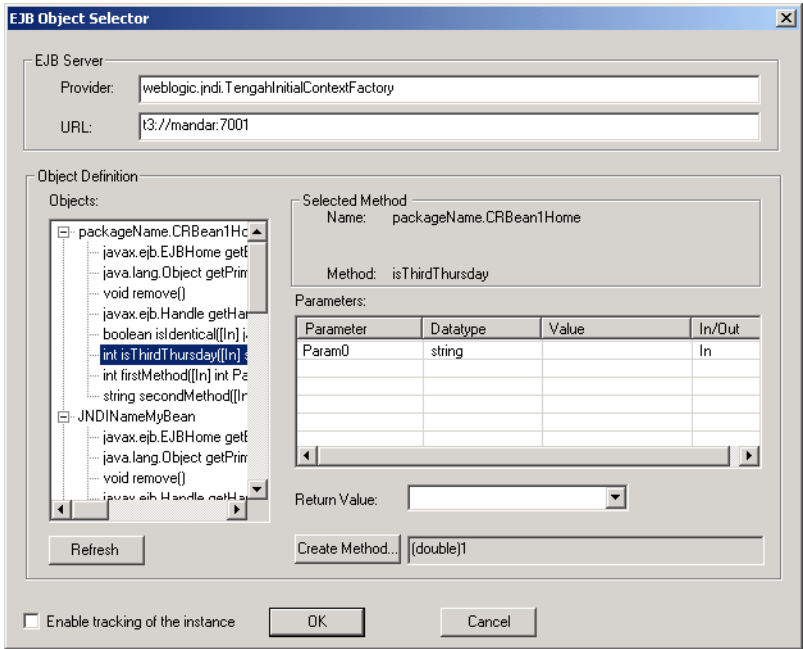

Figure 37-2. EJB Browser dialog with an Object and its methods selected.
- ③ The EJB Browser appears. Type the name of the third-party provider hosting your EJB in the **Provider** field, then type the provider's URL in the **URL** field.
- ④ Click **Refresh**. You will be prompted for password and ID information to access the provider's URL. If you don't know this information, please consult your system administrator.
- ⑤ You are taken to the provider and any registered Java Beans are loaded. You will see all registered Java Beans in the **Objects** list box (see Figure 37-2, below).